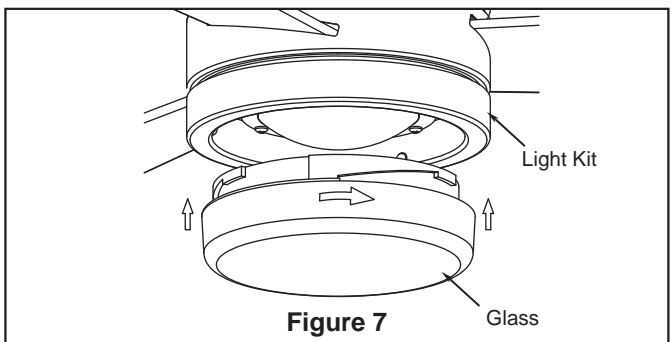

Figure 7
7. Reinstall the hanger ball on the downrod as follows. Route the black, white, blue and orange wires through the hanger ball. Position the pin through the two holes in the downrod and align the hanger ball so the pin is captured in the groove in the top of the hanger ball. Pull the hanger ball up tight against the pin. Securely tighten the set screw in the hanger ball. A loose set screw could create fan wobble. (Figure 7)
- 7. Secure the glass to light kit by twisting in a clockwise direction. Do not over-tighten. (Figure 7)
7. If airflow is desired in the opposite direction, turn the fan off and wait for the blades to stop turning. , then slide the reverse switch to the opposite position and turn fan on again. (Figure 7)